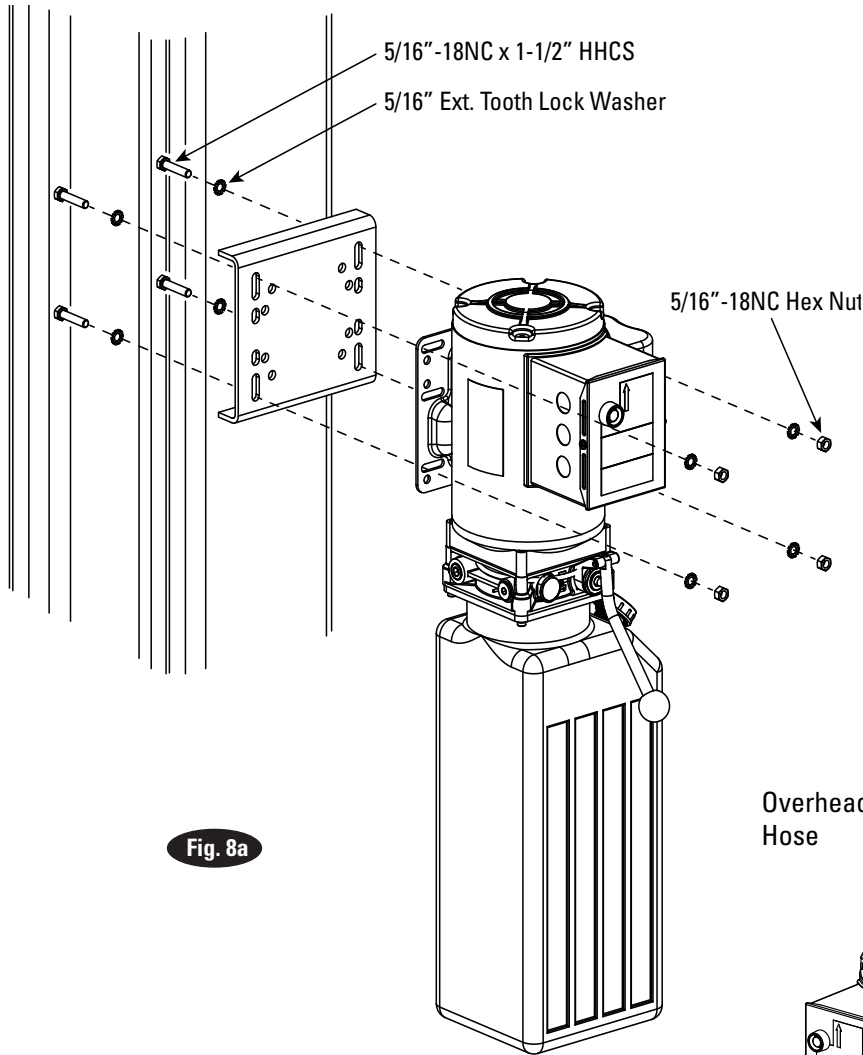
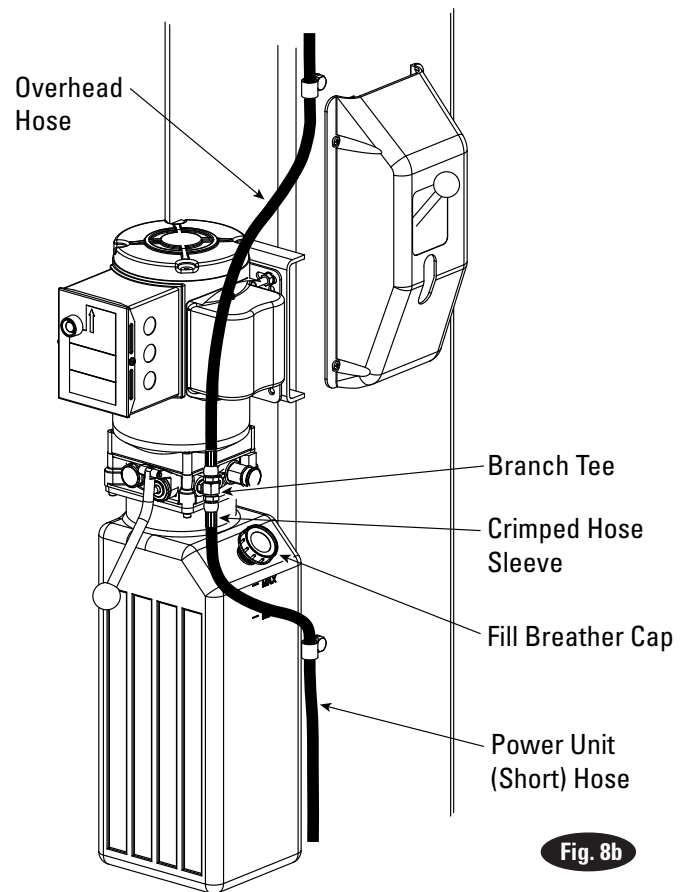

Fig. 8a
Fig. 8b
**9. Power Unit:** Put the (4) 5/16" -18NC x 1-1/2" HHCS thru holes in power unit bracket using (4) 5/16" Ext. Tooth Lock Washers. Mount power unit with motor up to column bracket and install (4) 5/16" Ext. Tooth Lock Washers and (4) 5/16" -18NC Hex Nuts, Fig. 8a. Install and hand tighten Branch Tee to pump until O-ring is seated. Continue to tighten the locknut to 10-15 ft-lbs., or until the nut and washer bottom out against the pump manifold, Fig. 8b.
**10. Hoses:** Clean adapters and hose. Inspect all threads for damage and hose ends to be sure they are crimped, Fig. 8b. Install hose and hose clamps, Fig. 9.